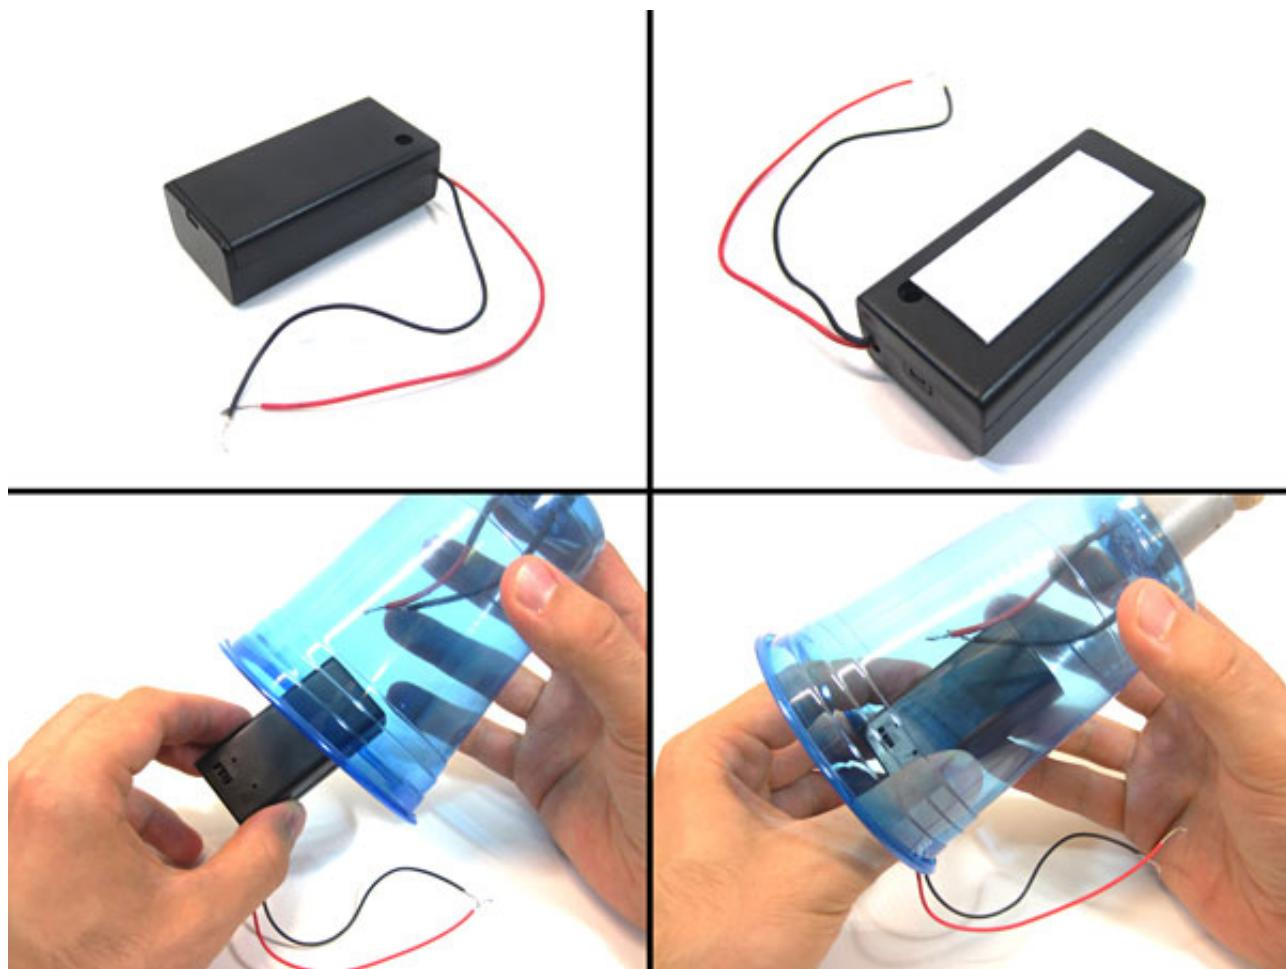

Figure 7. Using double-sided foam tape, mount the battery holder inside the cup, with the power switch facing down.
6. Use double-sided foam tape to mount the battery holder inside the cup, as shown in Figure 7, below.